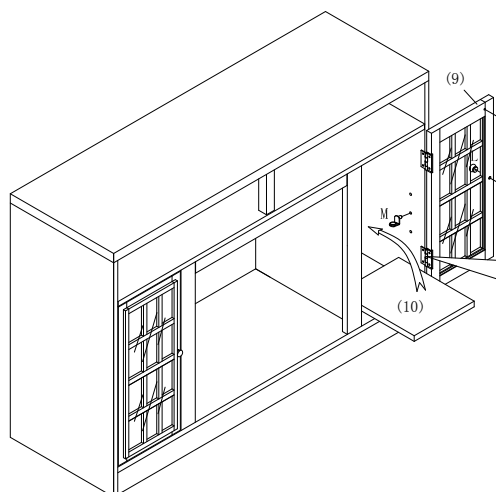

Figure 5
INSERT 8PCS SHELF HOLDER (M) INTO CORRESPONDING HOLES OF MIDDLE FIXED PANEL(3), THEN PUT THE SHELF PANEL ON IT, AS FIGURE 5 SHOWN.